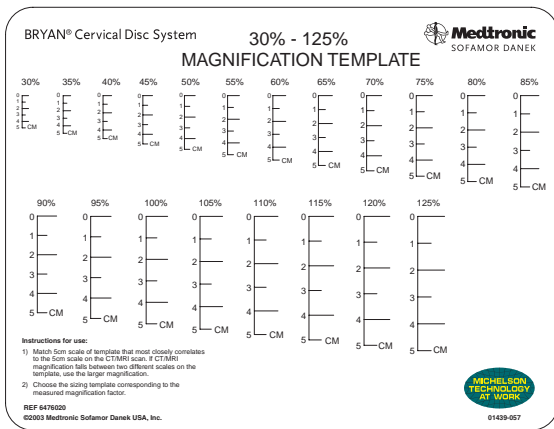
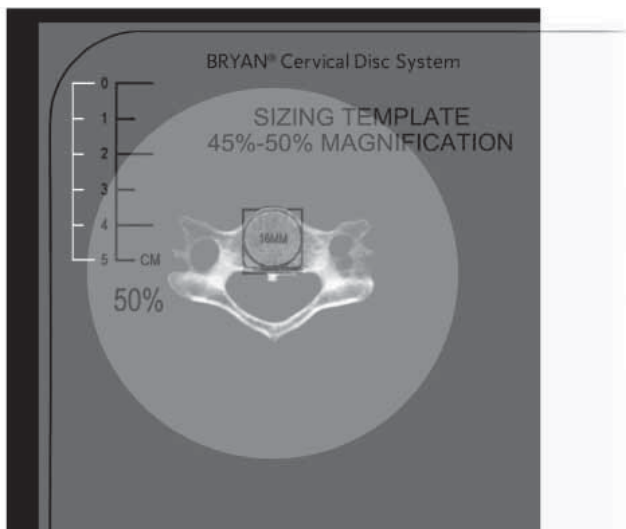

Figure 1a
Figure 1c
Using a computed tomography (CT) or magnetic resonance image (MRI) obtained so that the slices are parallel to the vertebral body endplates, determine the smaller of the two vertebral body endplates at the target disc space. The use of a CT image is preferred. Do not include spurs or ridges that will be removed in the subsequent burring process. Determine the magnification factor of the image using the **BRYAN® Cervical Disc Template Set** (Figure 1a, 1b). Choose the prosthesis template corresponding to the measured magnification factor and follow the instructions on the template to estimate the prosthesis size (Figure 1c).